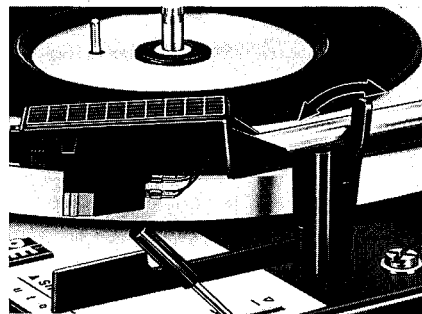

Fig. 7
Insert the rotating center spindle into the turntable platter, and, for 45-rpm records, the 17-cm adapter. Put a record on the turntable. Insert the player spindle, then place the desired record on the platter. Select the appropriate turntable speed ⑬ and unlock the tonearm (fig. 7).
Note: After a single record has played or after the last record in a stack has played, the tonearm will return automatically to its rest and the motor will shut off. If is advisable then to lock the tonearm on its rest (Fig. 7).